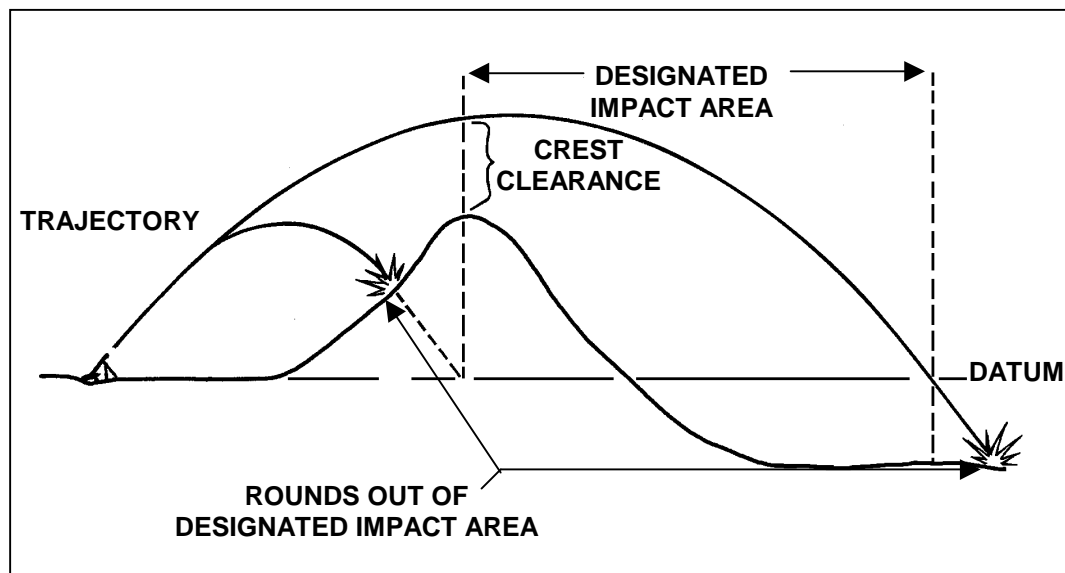

Figure B-2. Effects of VI and crest clearances.
c. **Vertical Interval and Crest Clearance.** The safety officer must compare the altitude of the mortar position and that of the impact area. If there are significant differences in the VI between these two areas, he must adjust the safety limits to preclude any rounds impacting short or long of the impact area (Figure B-2).
(1) The rule for determining the correct VI for safety purposes is called the *mini-max rule*. At the minimum range, the maximum altitude is selected. At the maximum range, the minimum altitude is selected. If the contour interval is in feet, it is converted to meters.
(2) The safety officer determines VI by subtracting the mortar firing position altitude from the altitude of the applicable range line. The resulting number is either positive or negative.
(3) The safety officer adds half the value of the VI determined for each applicable range line, to that line. This either increases or decreases the apparent size of the impact area, depending on whether the VI is positive or negative.